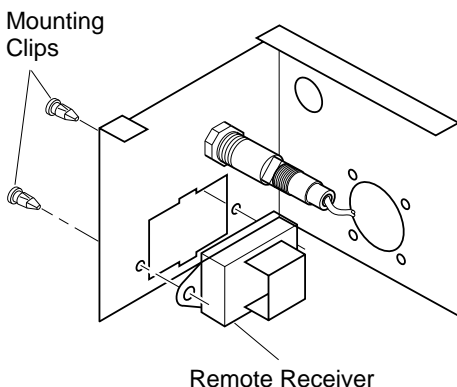

Figure 26 - Installing Remote Receiver
5. Push clips firmly into place (see Figure 26).